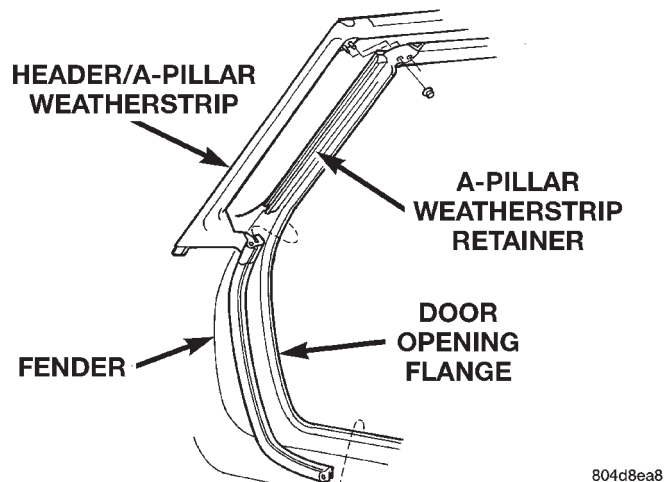

Fig. 40 Header/A-Pillar Weatherstrip
- (6) Remove nuts holding header and A-pillar weatherstrip at upper corners of windshield (Fig. 40).
- (7) Remove push-in fasteners at lower corners of windshield holding weatherstrip to A-pillar.
- (8) Separate header and A-pillar weatherstrip from vehicle.